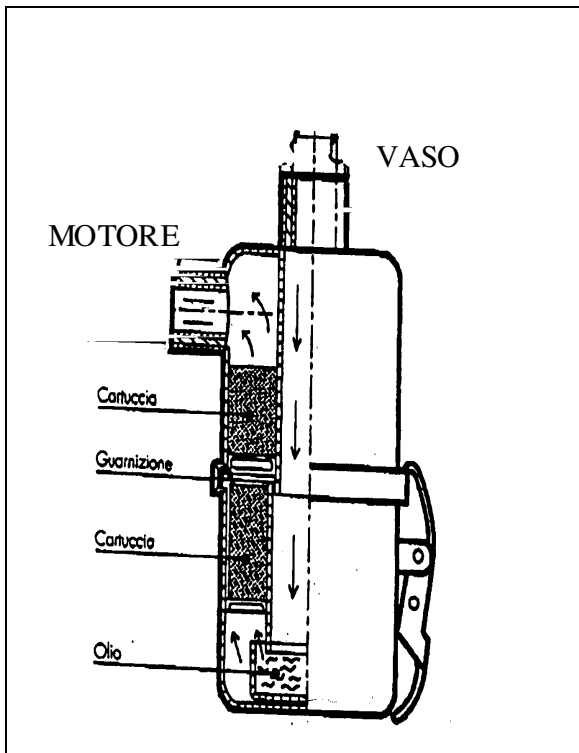

Fig: 1
3. Assemble the overflow float (fig. 1) by placing the "S" knob with its gasket into the proper hole at the centre of the vessel cover. Then place the float under the cover while slightly pressing the tapered plug of the knob into the proper float housing.